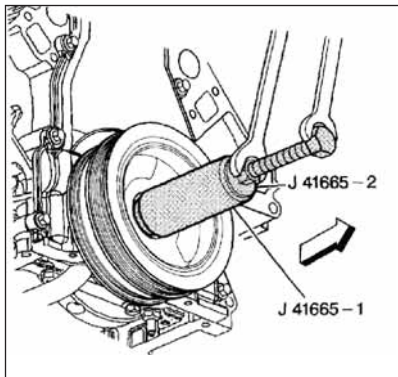

Figure 7 Installer tool J41665 will aid installation of balancer and sprocket.
3) Use a wrench and hold the hex end of the threaded rod; use a second wrench and rotate the installation tool nut clockwise until the balancer is started onto crankshaft (**Figure 7**, page 13).